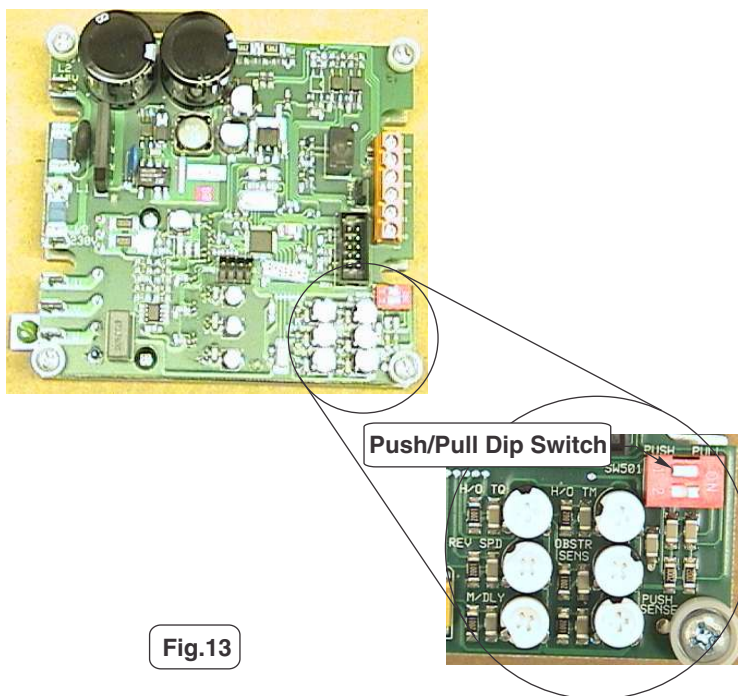

Fig.13
17. Flip the dip switch on the inverter from the Pull to the Push position, see fig. 13.